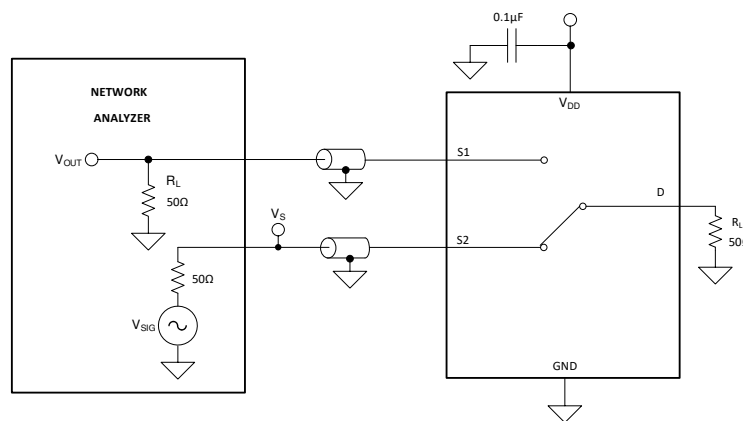

**Figure 6-7. Off Isolation Measurement Setup**
Off isolation is defined as the ratio of the signal at the drain pin (D) of the device when a signal is applied to the source pin (Sx) of an off-channel. Figure 6-7 shows the setup used to measure, and the equation used to calculate off isolation.